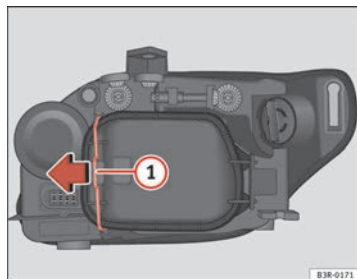

Fig. 206 Side light
Although it is not necessary, previously remove the rigid cover ⇒ page 272, fig. 206 for easier day light bulb changes. ■
- Move the brace ⇒ fig. 206 ① in the direction of the arrow and remove the rigid cover, separating the brace side and then removing the two tabs from the other end of the cover.